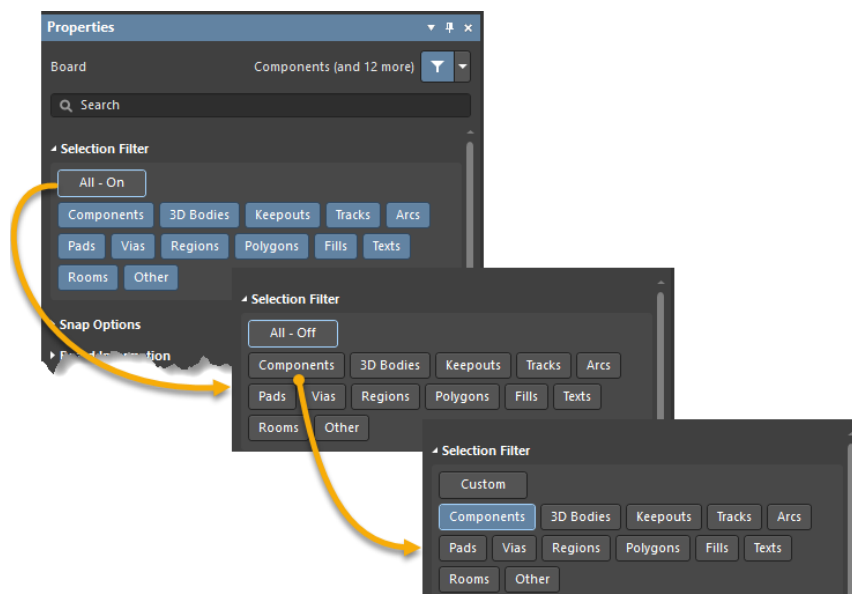

Figure 12. Selection Filter for Components
33. Enable the selection filter to only select **Components** and deactivate it for all other elements, as shown in Figure 12 below. If you do not see the selection filter (you see object parameters) click in a free area of the PCB to deselect everything or press **Shift+C**.